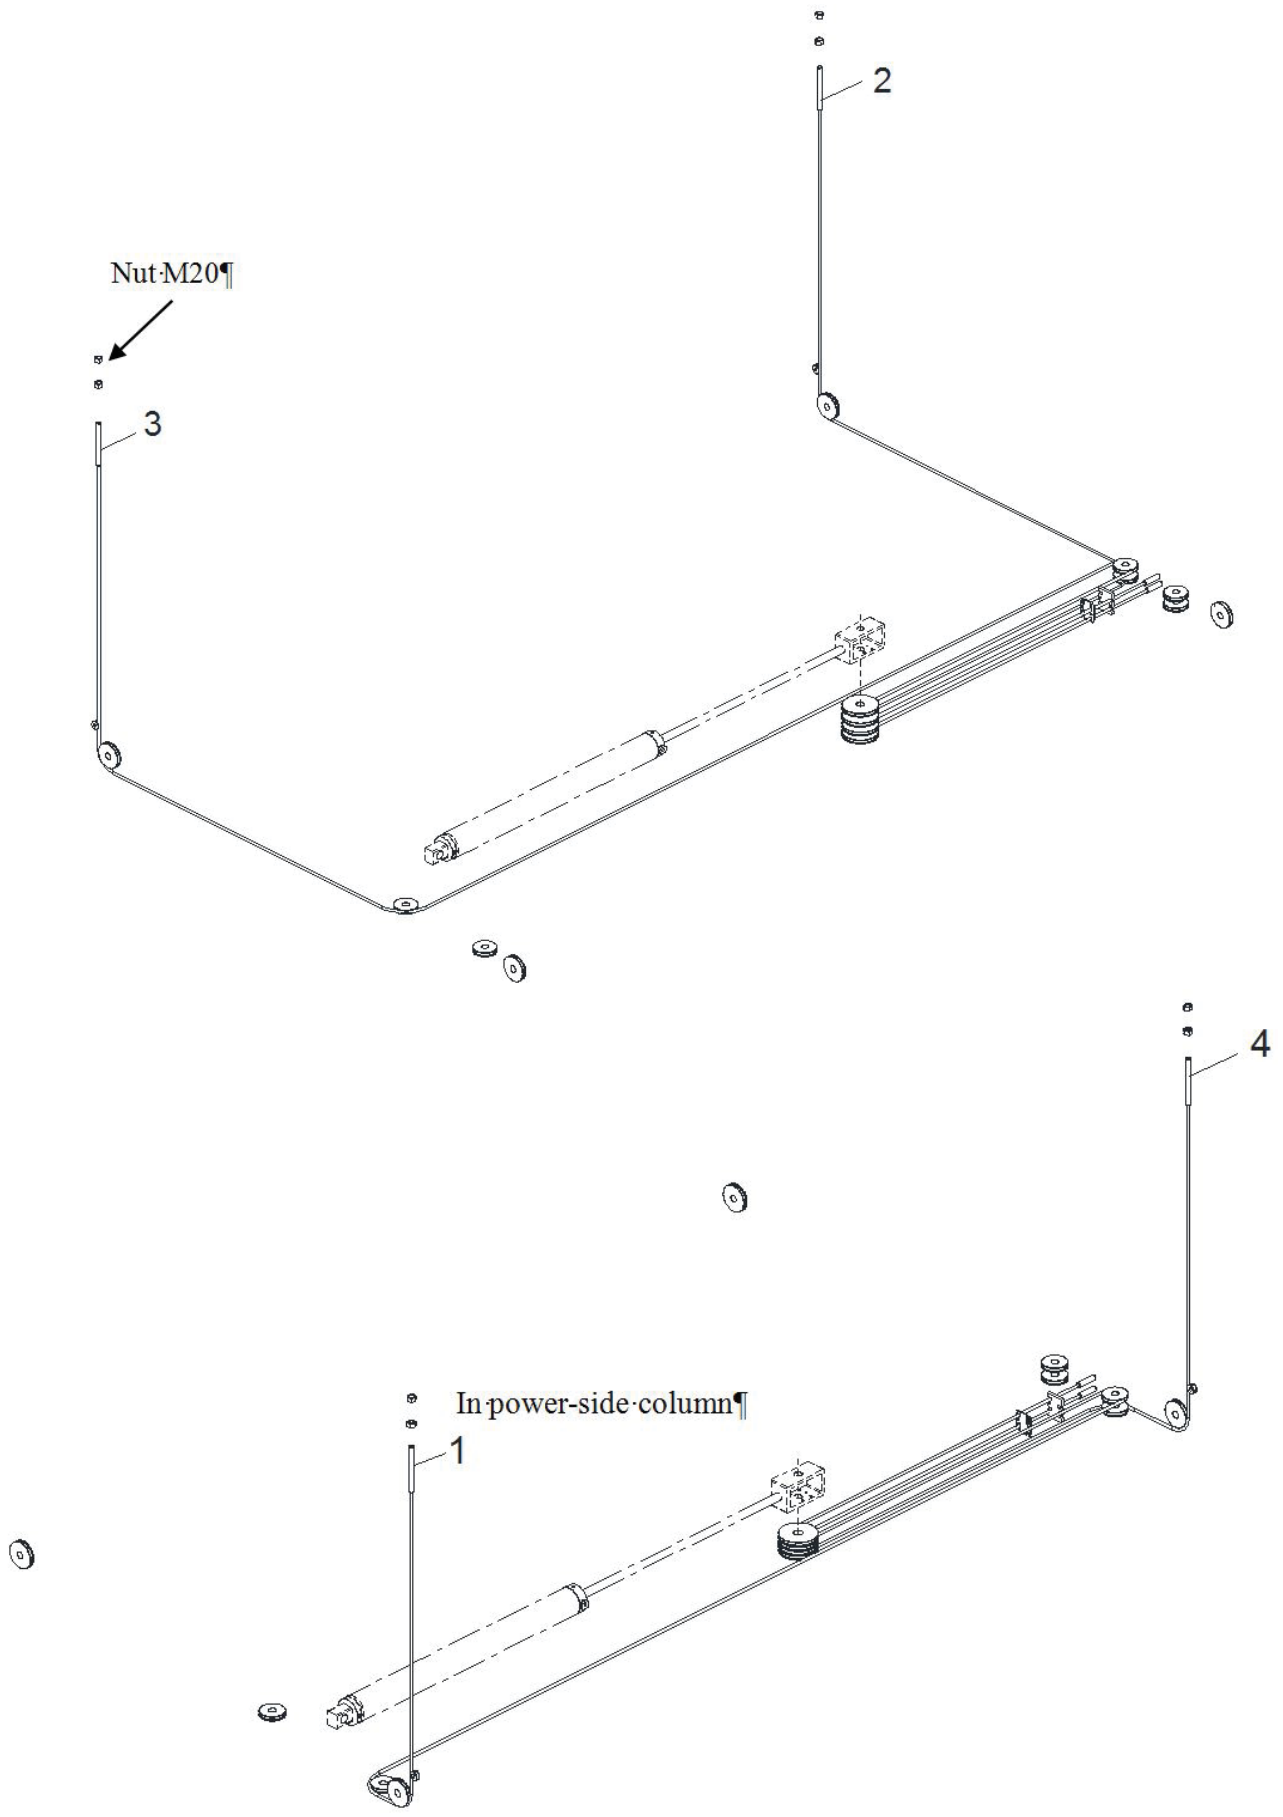

Figure 15 – Cable Routing Diagram
7.7 Routing Steel Cable (Ref. Fig. 15)
- Slide the cables from the end of power-side runway and route the cables through the pulleys in transverse beams referring to the routing diagram (fig. 15). Make sure that the cables are not twisted during routing and are in the proper pulley grooves. Make sure the cables are routed correctly on the slack cable rollers;
- Verify if both the runways are leveled horizontally by means of a water gauge or a leveling instrument. If not make the adjustment referring to the figure 15.